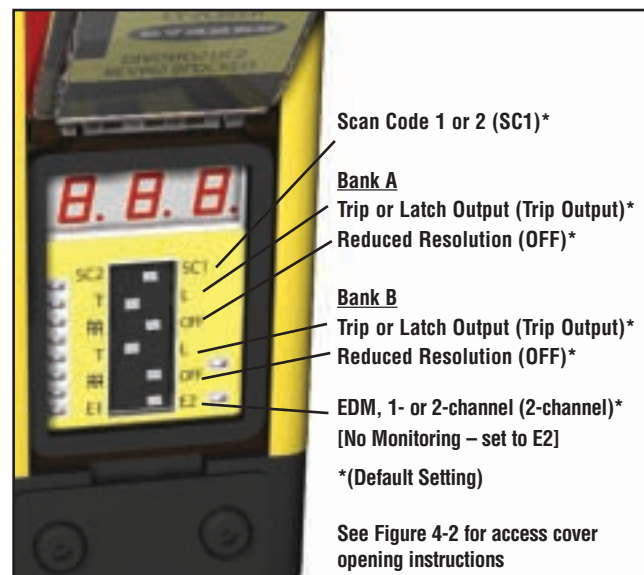

Figure 4-1. EZ-SCREEN configuration settings (receiver access panel shown)
If not previously configured, System settings are made on the configuration panels located on each sensor, behind the access cover. The access cover is opened by first removing the factory-installed security plate with the security hex wrench provided. It is recommended that the security plate be re-installed after any configuration changes. See Figure 4-1.
**Trip or Latch Output operation** is selected on two DIP switches in the receiver configuration port; see Figure 4-1. Both switches must be set to the same setting. If they have different settings, an error code will be displayed.
**External Device Monitoring (EDM):** EDM mode is selected via a 2-position DIP switch in the receiver configuration port; see Figure 4-1. For 1-Channel Monitoring, set the EDM DIP switch to the E1 position. For 2-Channel Monitoring or No Monitoring, set the switch to the E2 position. See Section 3.5.3 for more information.